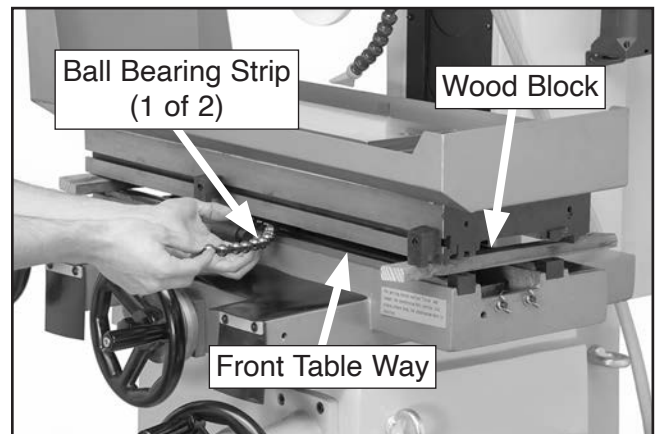

Figure 31. Installing ball bearing strip on front table way.
9. Feed (1) ball bearing strip onto front table way, as shown in **Figure 31**.